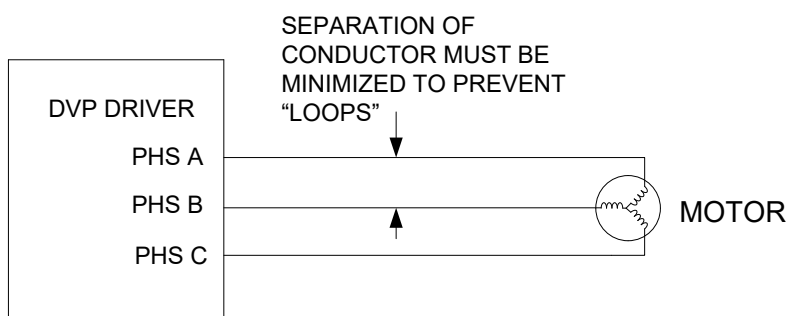

Figure 3-6. Preventing "Loops"
- If separate cables are necessary, then the distance between conductors must be minimal to reduce the previously mentioned loops, as shown in Figure 3-6.